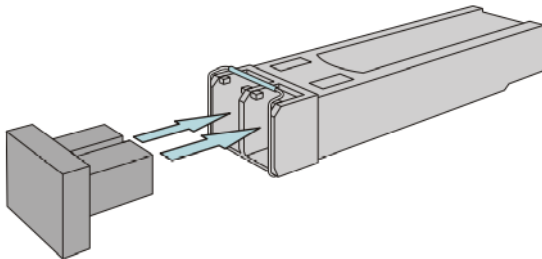

Figure 32: Installing the Protective Cover
- ☐ Use a protective cover to blank the SFP transceiver. See Figure 32.